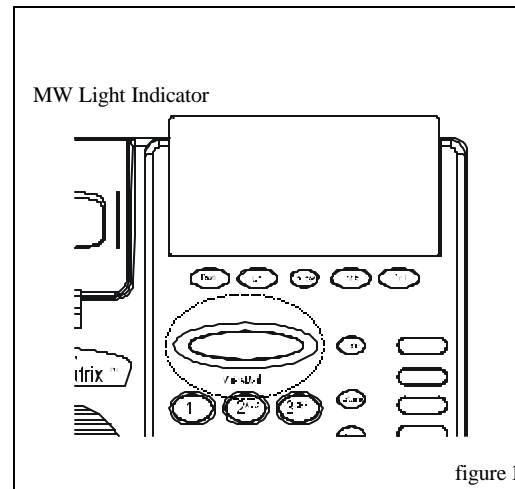

figure 1
1. The handset retaining clip must be in the correct position to secure the handset into the handset cradle. To engage the clip, pull the clip forward (outward) with your fingers, rotate the clip 180° and snap the clip back into place (figure 1). The retaining clip cannot be removed because it is spring loaded.
The SpectrumPLUS™ telephone has a Message Waiting (MW) Light Indicator (figure 1). The indicator will blink to indicate that a new message is in the user's voice mailbox. The SpectrumPLUS™ supports the following telephone or PBX supplied message waiting signals: